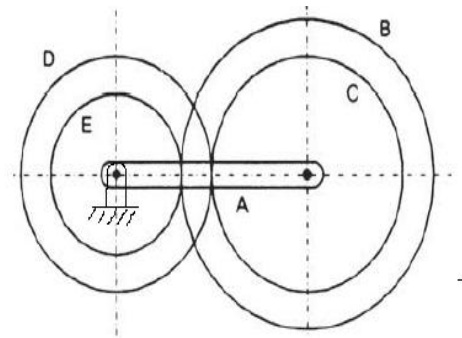

Fig. 5
- (b) In a reverted epicyclic train as shown in figure 5. The arm A carries two wheels B and C and a compound wheel D-E. The wheel B gears with wheel E and the wheel C gears with wheel D. The number of teeth on wheels B, C and D are 90, 70 and 60 respectively. Find the speed and direction of wheel C, if wheel B is rotating with 20 rpm anti-clockwise and the arm A makes 100 rpm clockwise. Assume same module for all the gears. [CO5][Analyze/IOCQ]